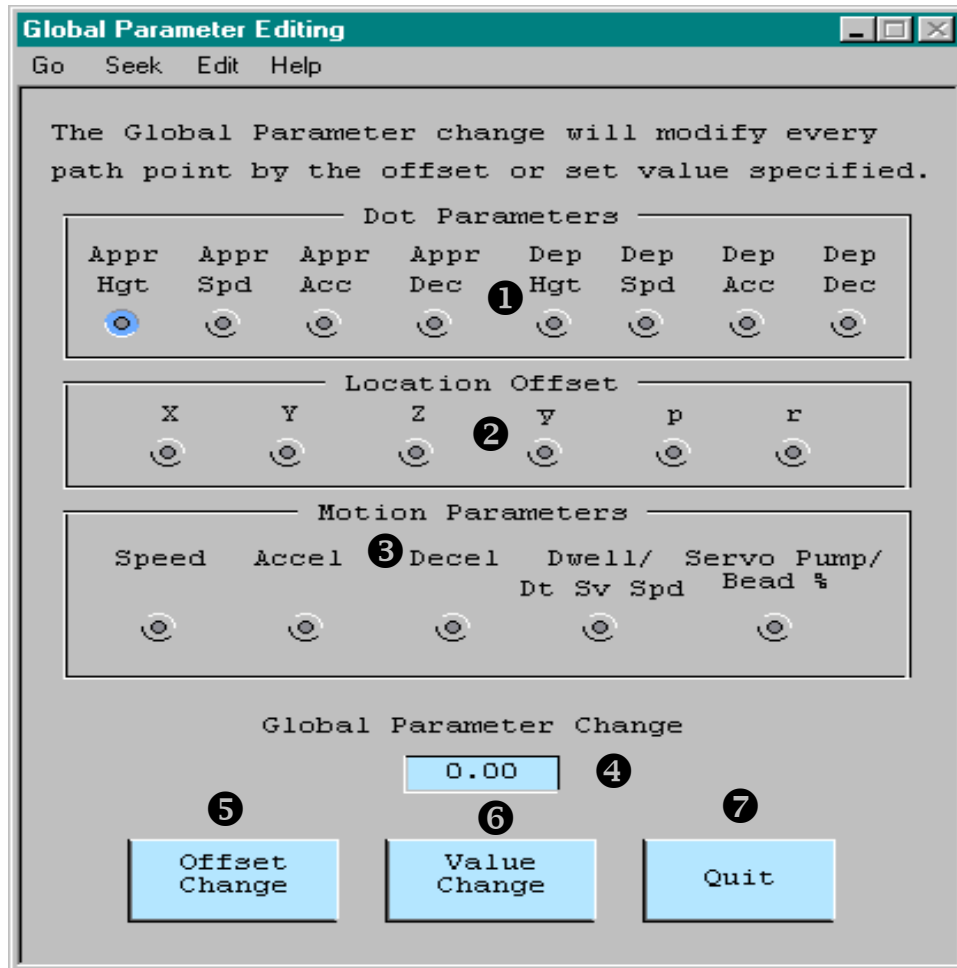

Figure 3-2. Global Editing of Path
- 8 Press **Global Edit** to allow parameter changes to many of the path parameters globally though all of the records. Items like Speed, Accelerations, Delays, Bead% and position offsets are allowed from this pop-up menu. Refer to the following **Figure 3-2** on Global Editing for more information.